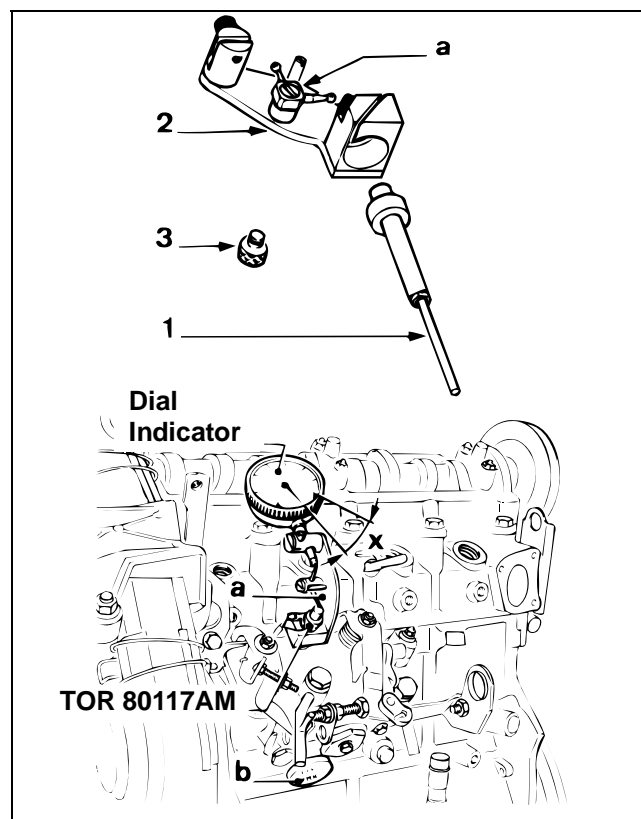

Figure 55
7. Use Timing Tool Assembly TOR 80117 AM. Lubricate the timing rod (Fig. 55, Item 1) with Diesel fuel, then install the timing rod in the pump timing hole (Item d). Check to see that the rod moves freely in the bore.